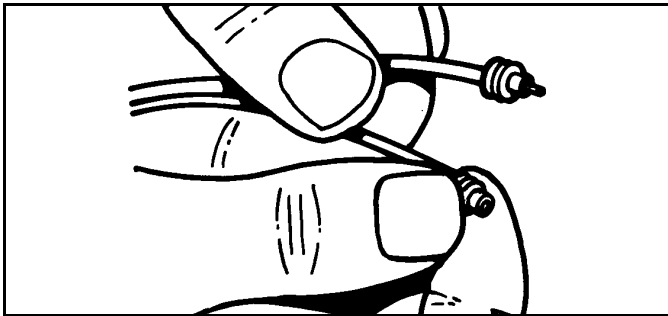

Figure 3-7
2. Install new correct size cable seal on wire (See Figure 3-7).